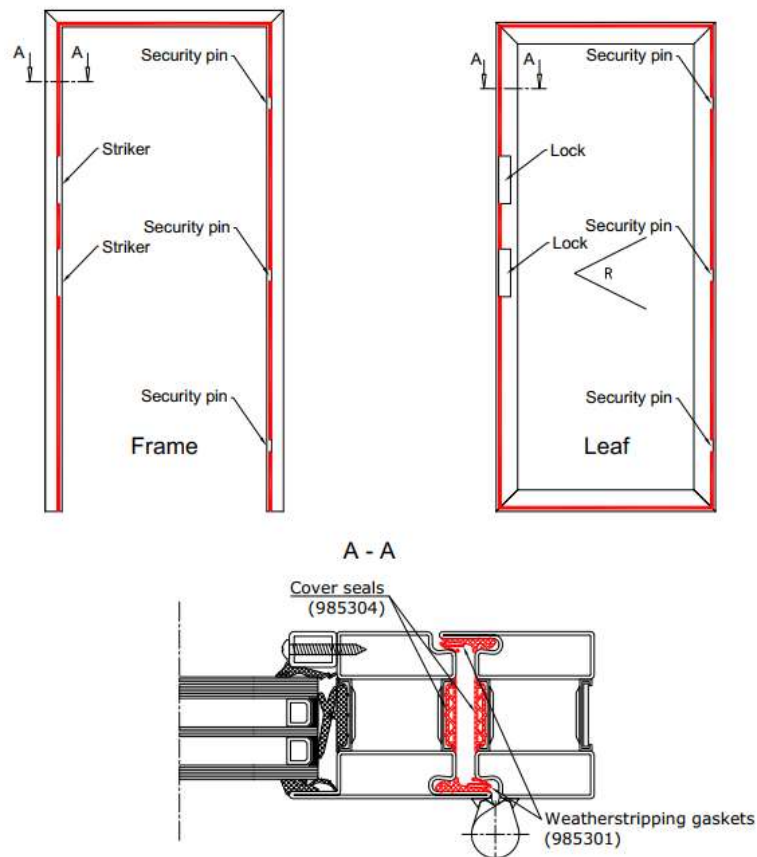

Figure 4 Installation of cover seal 985304
12. Install the cover seal to the frame, starting from lower point of the frame. Do not cut the seal at the frame corner, it may be only cut near the lock and security pins. Cut the seals 1 cm longer than the frame gap length and install it to its place (Figure 4).
13. During installation, make sure, that the weatherstripping gasket is installed in the right direction (Figure 4).